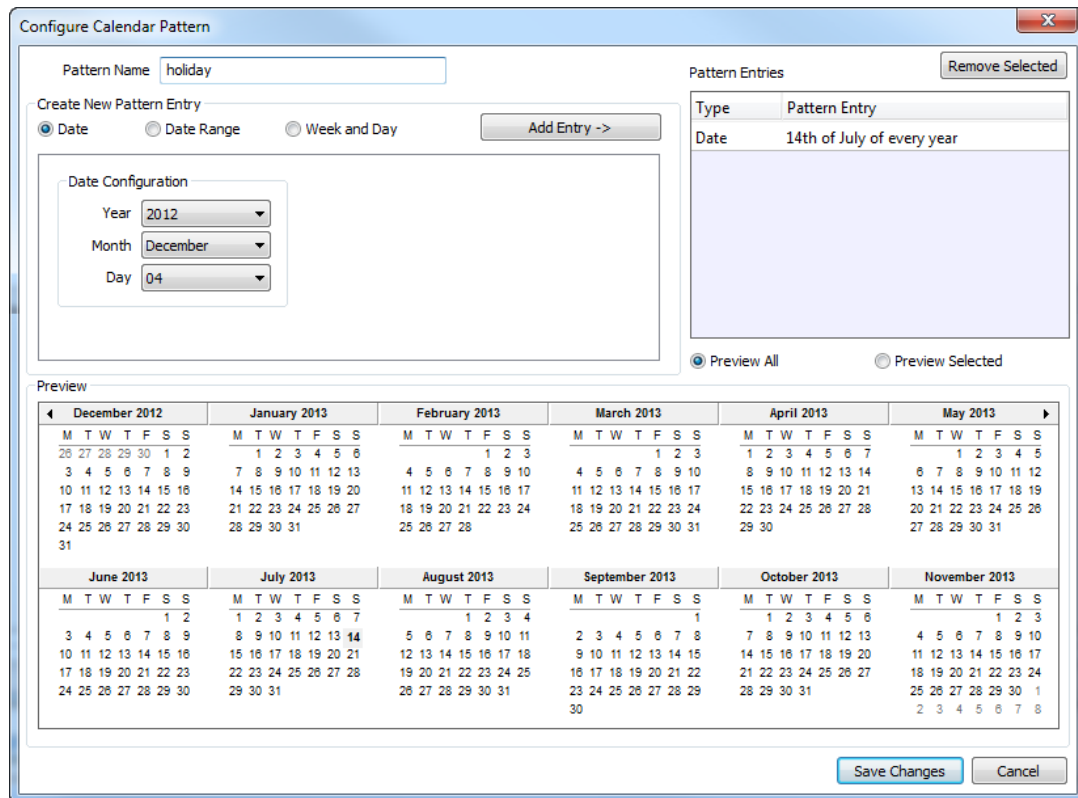

Figure 179: Configure Calendar Pattern Dialog.
4. The **Configure Pattern** dialog appears as shown in Figure 179. Add dates to the calendar pattern by entering a Date Configuration. Then click **Add Entry**. The date appears in the Pattern Entries list on the right-hand side.